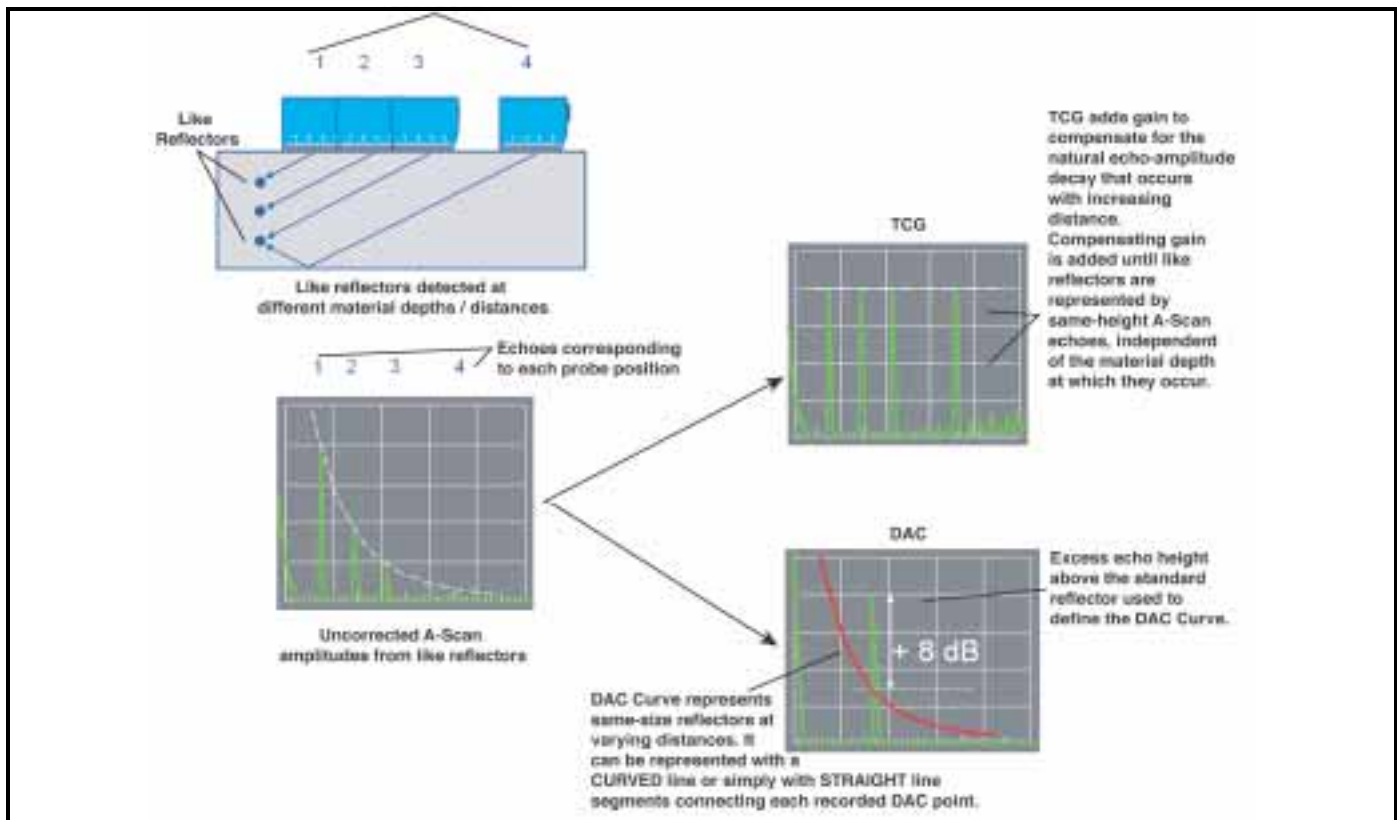
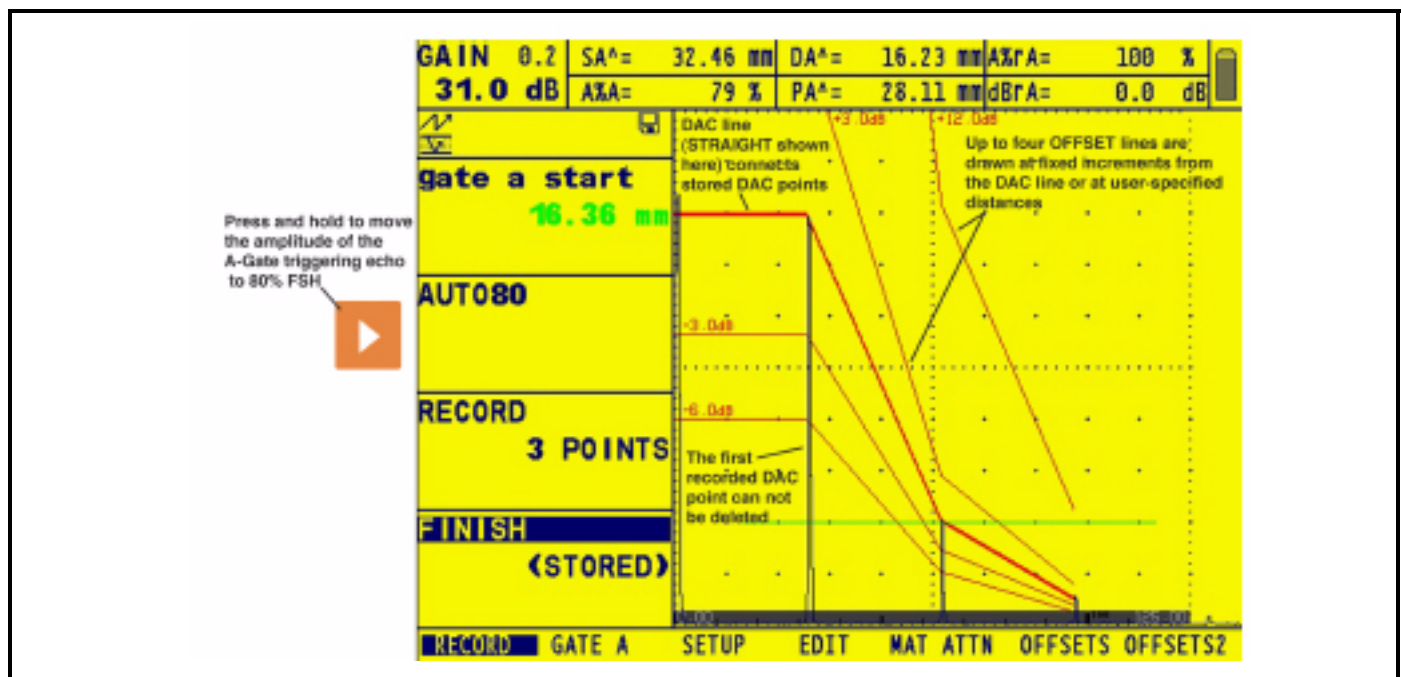

Figure 53: Distance/Time Compensation Features
Figure 54: Storing at least two DAC points allows you to generate a curved or straight (shown here) DAC line and corresponding offset lines.
Conventional measurements can be made using the Time Corrected Gain (TCG) and Distance Amplitude Correction (DAC) functions (Figure 53 below). These functions are accessed through the DAC/TCG Menu on the HOME Menu bar. Both the DAC and TCG functions operate based on a set of user-recorded data points. These points are recorded from the DAC/TCG menu as described below.
The DAC function displays all echoes at their true amplitude (without depth compensation). However, when operating in DAC mode, a Distance Amplitude Correction curve is superimposed on the A-Scan display. The curve, like the one shown in Figure 53 below, represents constant reflector size at varying material depth.
In DAC mode, the instrument uses the user-input reference points to create a curve representing the amplitudes of echoes representing same-size reflectors at varying material depth (Figure 53 on the previous page). The recorded reference point data is stored until replaced or edited. To create a DAC curve and operate in DAC mode:
3. The DAC curve can appear as a series of straight line segments (Figure 54) joining the stored DAC points or as a curved (linear in gain – as shown in Figure 53) line that's based on these points. Access the DAC TYPE function, located in the SETUP Submenu, to display the desired DAC curve type.
2. Press  next to the DELETE CURVE function (see Figure 53 on page 118).